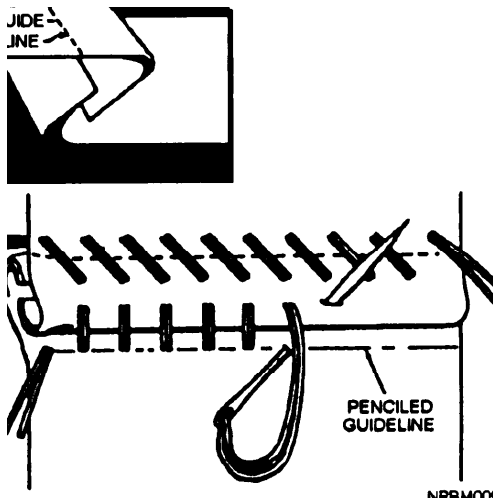

Figure 3-14.—Flat stitch.
- Flat stitch. A flat stitch is used when a strong seam is required, as on a paulin or a sail. Pencil a guideline 1 1/2 or 2 inches from the edge of each strip of canvas, depending on how wide you want the seam. Crease each piece on a line slightly less than halfway to the guideline. Make the folds away from the guidelines and interlock the folds (fig. 3-14). Interlocking the edges forms a watertight seam and keeps a ragged edge from showing. Insert the needle at the guideline, and stitch diagonally so that the stitches appear at right angles to the seam on top but run at an angle on the reverse side. After completing one edge, turn the canvas over and sew the other edge of the seam. Flat stitching also is used for patching.
A seabag may be any size desired, but 1 foot in diameter and 36 inches in length is about average. Use No. 4 weight canvas that is wide enough for the length of the bag plus an allowance for seams, to avoid sewing an extra seam. A 40-inch width is adequate. Cut a length equal to 3.14 times the diameter of the bag plus 3 inches for the seam. Fold back one-half inch at each end and draw a line 1 inch from each fold. Lap the ends and flat stitch each fold to the opposite part along the penciled line as in figure 3-14.